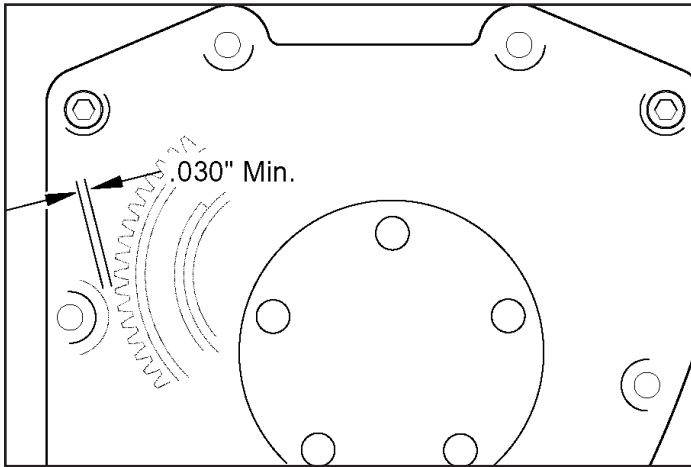

Figure 8
30. Press a small piece of clay or kneadable putty on cam cover mounting boss as shown. See **Figure 8**. Carefully hold cover and cover gasket in position against crankcase. Install mounting bolts (4) near corners of cover finger tight. Push or tap cam cover towards front of engine.